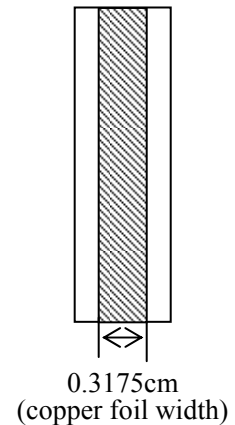
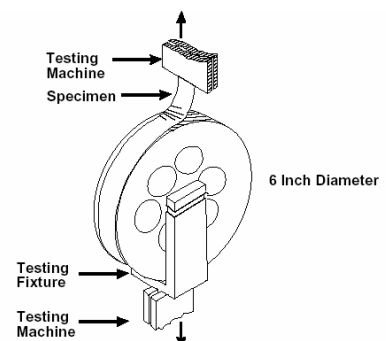

Figure 2: Peel strength test pattern
Figure 3: A signal of peeling test
- d. Test specimen has a test pattern, such as figure 2.The specimen has a 0.3175cm (width) copper strip and total specimen width is 1.5cm. Finally, the specimen will be immersed in HCl 、 NaOH and IPA for 10 mins then wash out chemicals with water and wipe off water for testing.
(2) Test process
- d. Test direction: peeling at 90° angle, such as figure 3